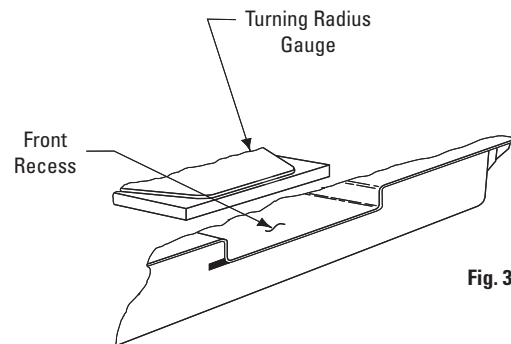

Fig. 38
- C. Place the turning radius gauges in the recesses of both runways with the pointer and lock pin to the outside of lift, Fig. 38. Position each gauge against the rear guide bars. Then position the front guide bar just against the front edge of the turning radius gauge. Repeat on other runway. (A tolerance of 1/16" (1.6mm), end-to-end, is acceptable). Tighten the mounting bolts securely. The turning radius gauges are now square and in proper alignment with each other.